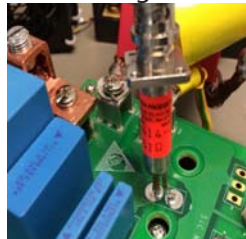

Figure 9. Low side current measurement
- Use a highly accurate 0.0131ohm shunt (recommend SDN series shunt resistors from T&M Research), to measure the low side current waveform as shown below in Figure 9. This can help to shorten the current sense loop.